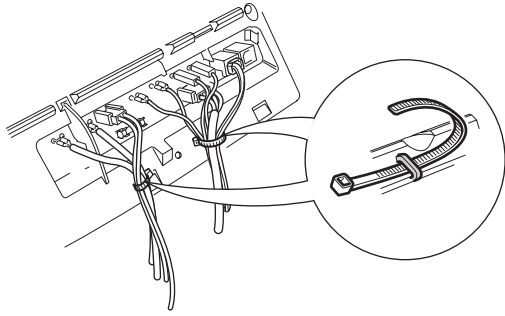

Fig. 37
- Use a cable tie to bundle each set of connector cables and secure them to the housing to provide strain relief (Fig. 37).